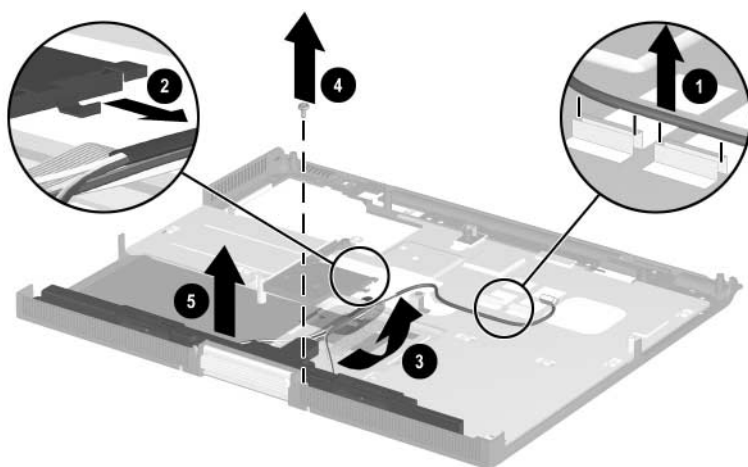

Figure 5-25. Removing the Speaker Assembly
3. Route the drive activity light/battery power light cable and speaker cable out of the retaining clips in the top cover ❶ and ❷ (Figure 5-25).
4. Remove the strip of tape ❸ that secures the speaker assembly and TouchPad cables to the top cover and TouchPad assembly.
5. Remove the PM2.0 × 4.0 screw ❹ that secures the speaker assembly to the top cover.
6. Lift the speaker assembly straight up ❺ and remove it from the top cover.